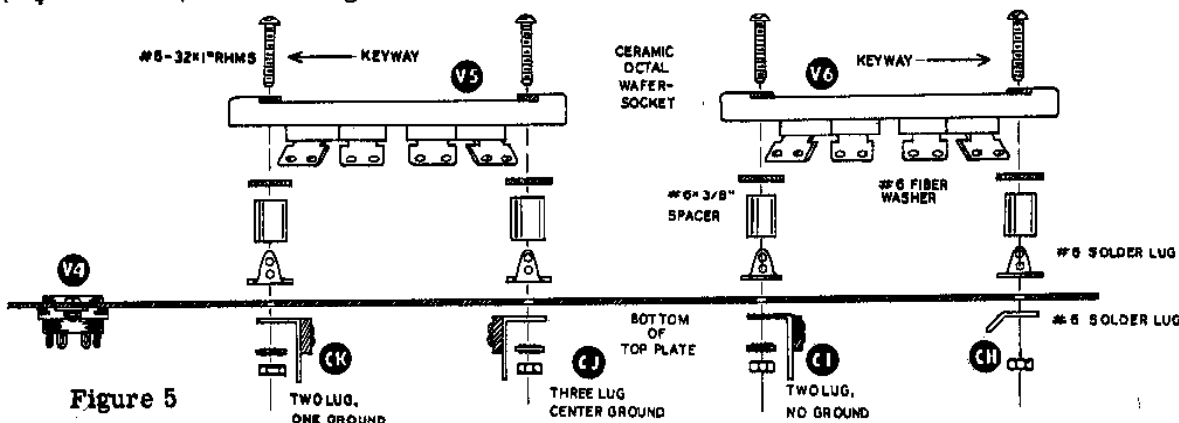

Figure 5
- (✓) Mount a ceramic octal wafer socket on the top side of the chassis top plate at location V5, using 3/8" #6 spacers and #6-32 x 1" RHMS, through holes CK and CJ. Place a #6 fiber washer on the screw at the socket end of each spacer, then place a #6 solder lug on the screw at the chassis end of each spacer. See Figure 5 for mounting details. Orient socket so keyway faces toward V4. Under the #6 mounting nut at CK on the bottom side of the plate, place a 2 lug (one ground) terminal strip and orient as shown. Use a lockwasher. Place a 3 lug (center ground) terminal strip under the lockwasher and nut of the mounting screw at CJ and position as shown.
- (✓) Connect a .005 mf disc capacitor between V6-2 (NS) and the solder lug (S3). Position as shown.
- (✓) Connect a 1300 mmf disc capacitor between V6-3 (NS) and the solder lug under the spacer at C1 (S1).
- (✓) Connect one end of a short piece of #16 bare wire to V5-7 (NS) through V5-8 (NS) to the solder lug at CK adjacent to V5-1 (NS). Now solder V5-7 (S1) and V5-8 (S1).
- (✓) Connect a .005 mfd disc capacitor between V5-1 (NS) and the near solder lug.
- (✓) Connect a .005 mf disc capacitor between V5-2 (NS) and the solder lug (S3). Position as shown.
- (✓) Connect a 1300 mmf disc capacitor between V5-3 (NS) and the solder lug under the spacer at CJ (S1).